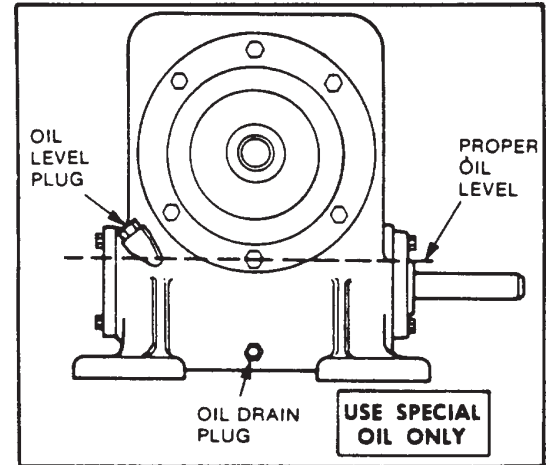

Figure 10-1 Gear Reducer
4. OVERFILLING OR UNDERFILLING – If a gear reducer is overfilled with oil, the energy used in churning the excessive oil can result in overheating. If the gear reducer is underfilled, the resultant friction can cause overheating. If underfilling occurs, fill the gear reducer to the oil level plug hole. See Figure 10-1.